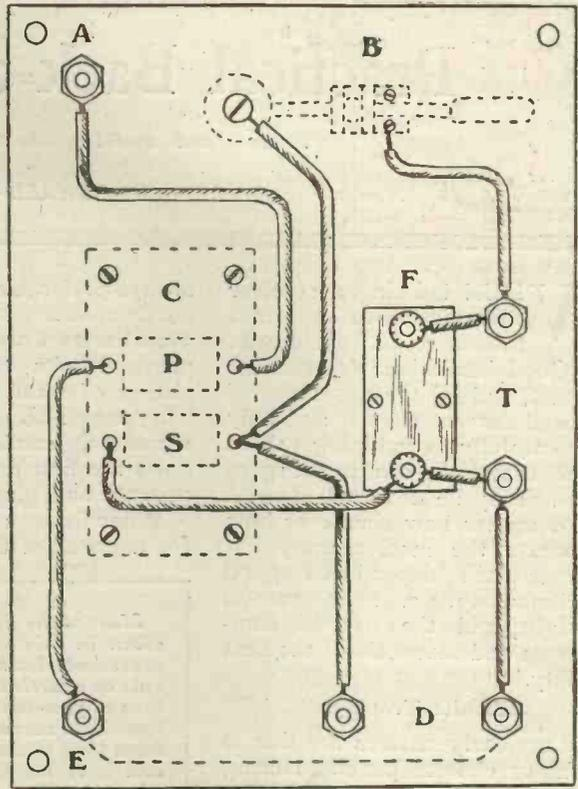

Fig. 2a.—Back-of-panel view of a loose-coupled crystal set using plug-in coils.
**Crystal Receiver with Honeycomb or Basket Coils Fig. 2a**